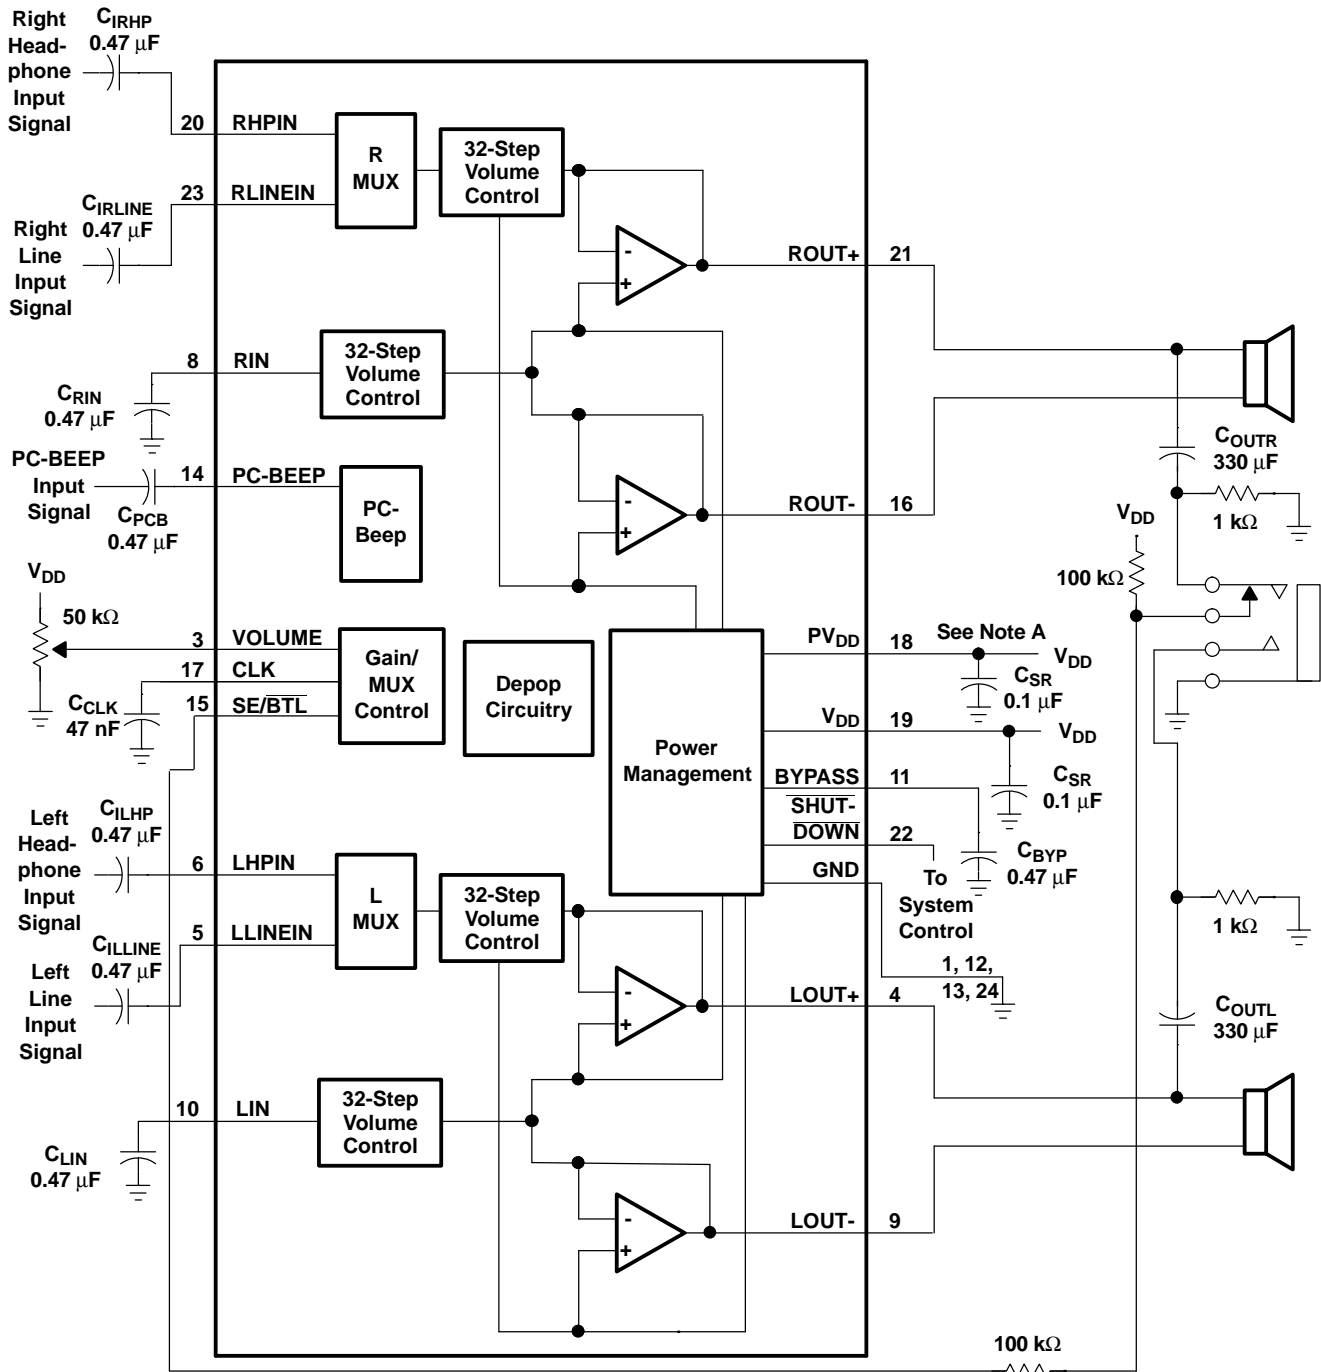

**Figure 29. Typical Gain Variance**
- (1) Each step is tested at its midpoint and characterized within  $\pm 4$ dB of the specified gain value for  $V_{DD} = 5$  V. For  $V_{DD} = 4.5$  V to 5.5 V, multiply values by 90% and 110%, respectively.
- (2) 95% of the characterized values lie within  $\pm 0.5$ dB of the specified gain value. Figure 29 shows the typical behavior of most devices.